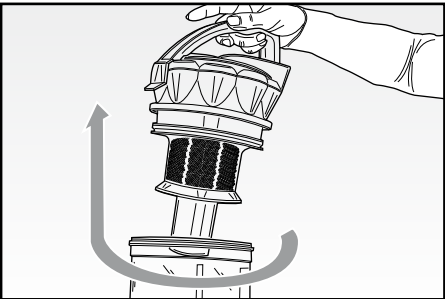

Fig. 10
- remove the complete filter by rotating it clockwise (Fig. 10).